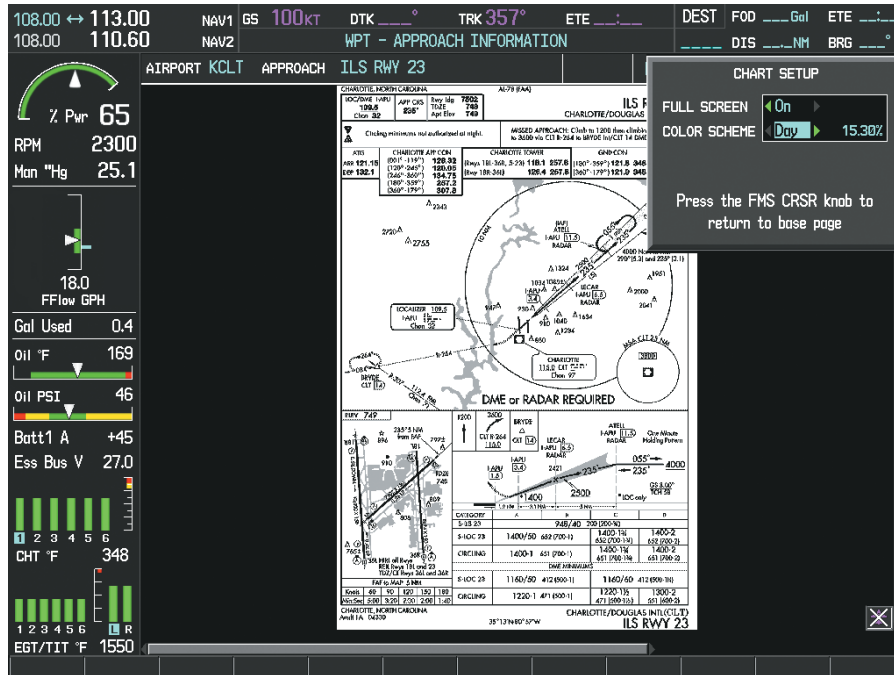

Figure 8-73 Approach Information Page, Day View
- 3) Turn the large **FMS** Knob to move to the COLOR SCHEME Option (Figure 8-73).